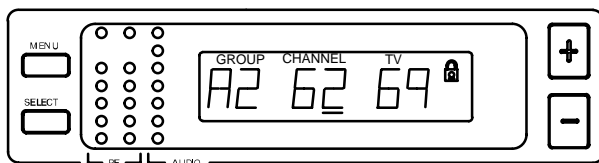

FIGURE 33
5. A small “lock” symbol appears in the upper right corner of the status screen displays, as shown in Figure 33. The lock symbol indicates the receiver is in the lock mode.